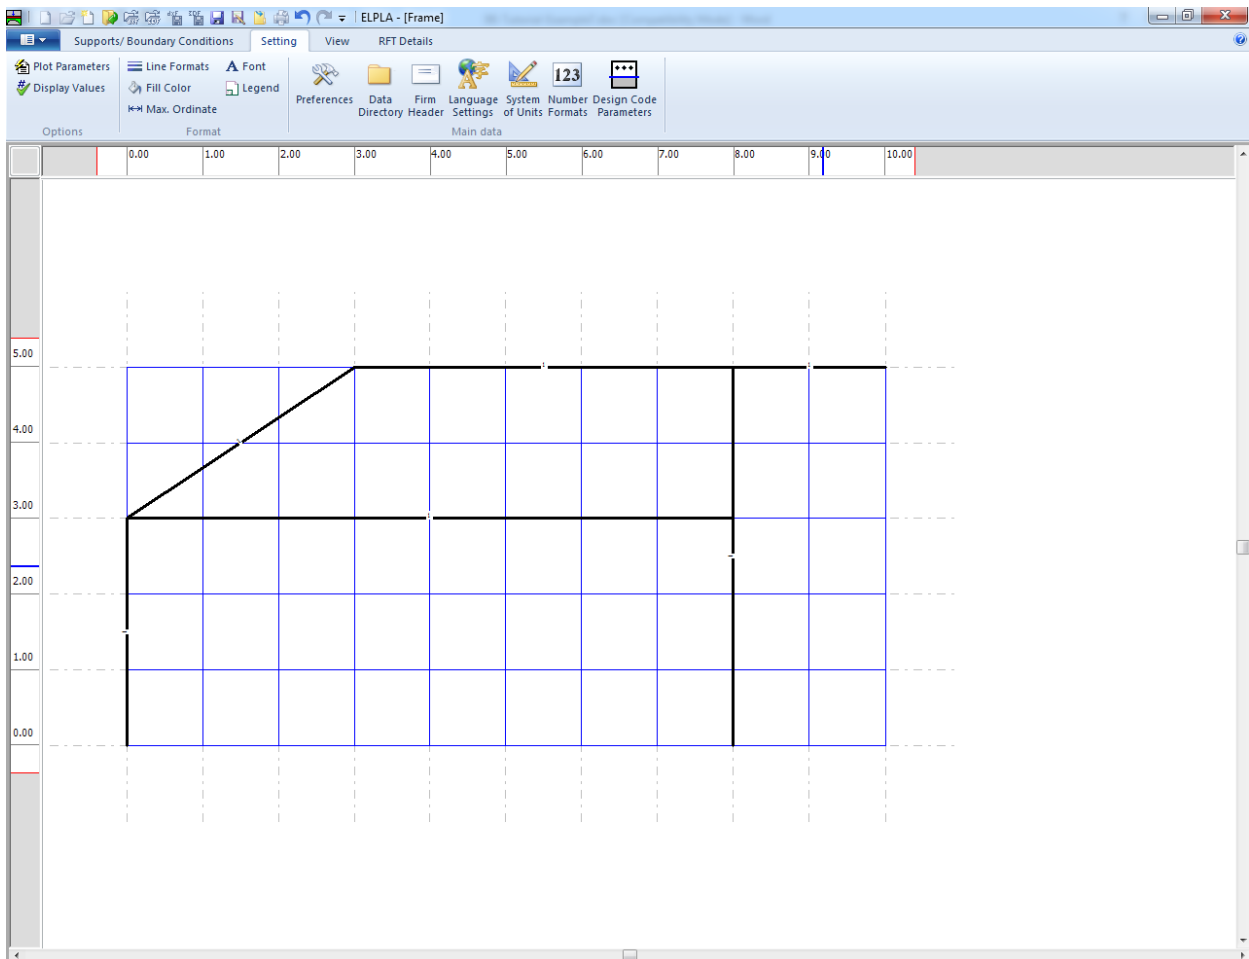
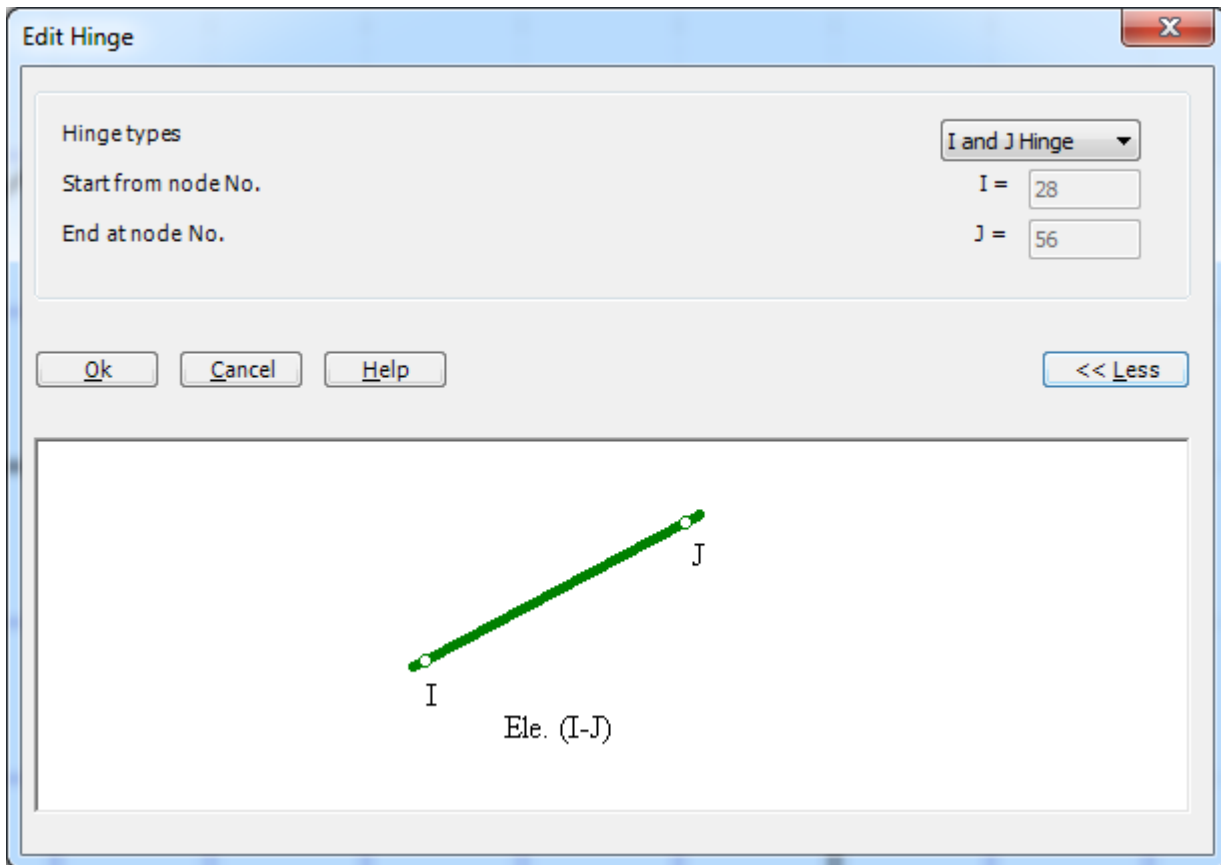

Figure 7.20 Girders are drawn as simple lines
Figure 7.24 "Edit hinge" dialog box
After clicking "OK" in the "Plot Parameters" dialog box, the girders are drawn as simple lines as shown in Figure 7.20.
- Choose "Select Nodes" command from "Graphically" menu in Figure 7.20. When "Select Nodes" command is chosen, the cursor will change from an arrow to a cross hair
To define the element hinged, choose "Edit Hinge" command from "Graphically" menu in Figure 7.20. When "Edit Hinge" command is chosen, the cursor will change from an arrow to a cross hair. Double click on the element that has hinges. "Edit Hinge" dialog box in Figure 7.24 appears.